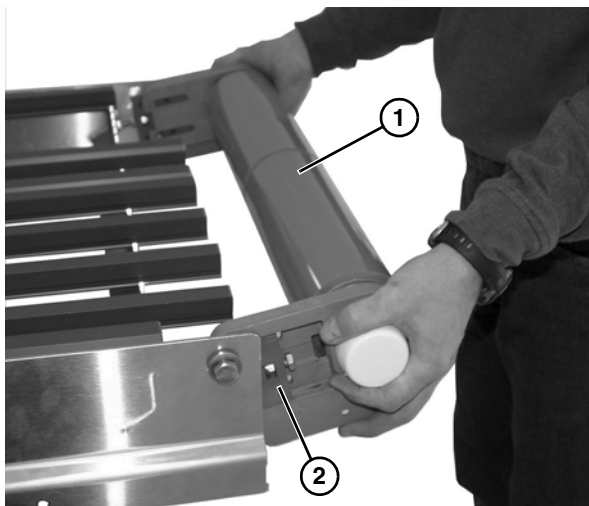

Figure 43
- Slide the idler spindle assembly (Figure 43, item 1) off the pivot tail blocks (Figure 43, item 2).